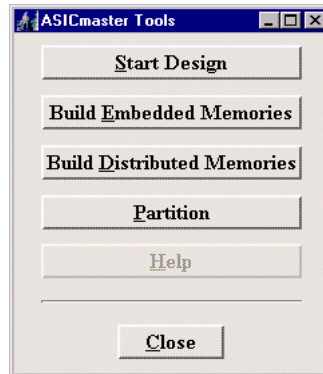

Figure 1-5. ASICmaster Tools Dialog Box
3. Click the Build Embedded Memories button from the ASICmaster Tools dialog box shown in Figure 1-5 on page 8.